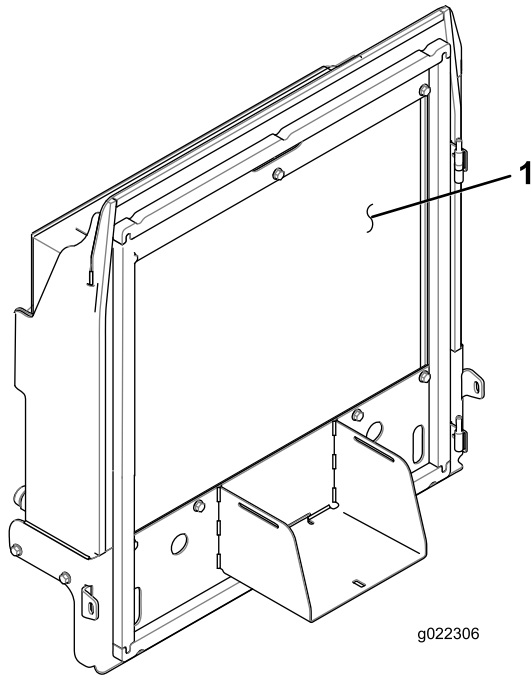

Figure 65
4. Thoroughly clean both sides of the radiator and oil cooler (Figure 65) with compressed air.